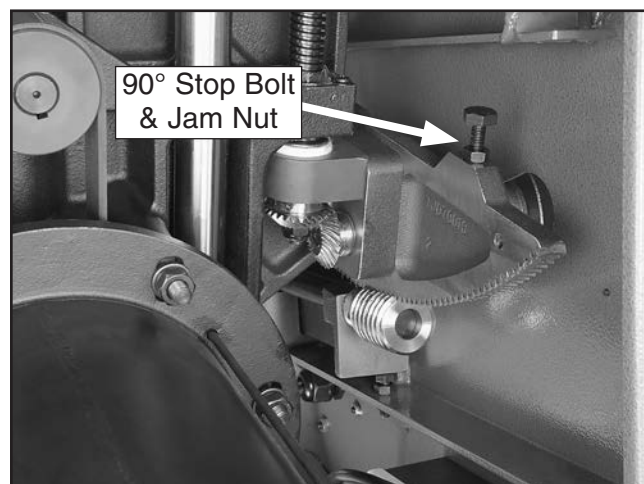

Figure 122. 90° stop bolt and jam nut.
5. Open the motor access cover, loosen the jam nut shown in **Figures 122–123**, adjust the stop bolt up or down according to how far off the blade was from 90°, then repeat **Step 3** until the blade stops at 90°.